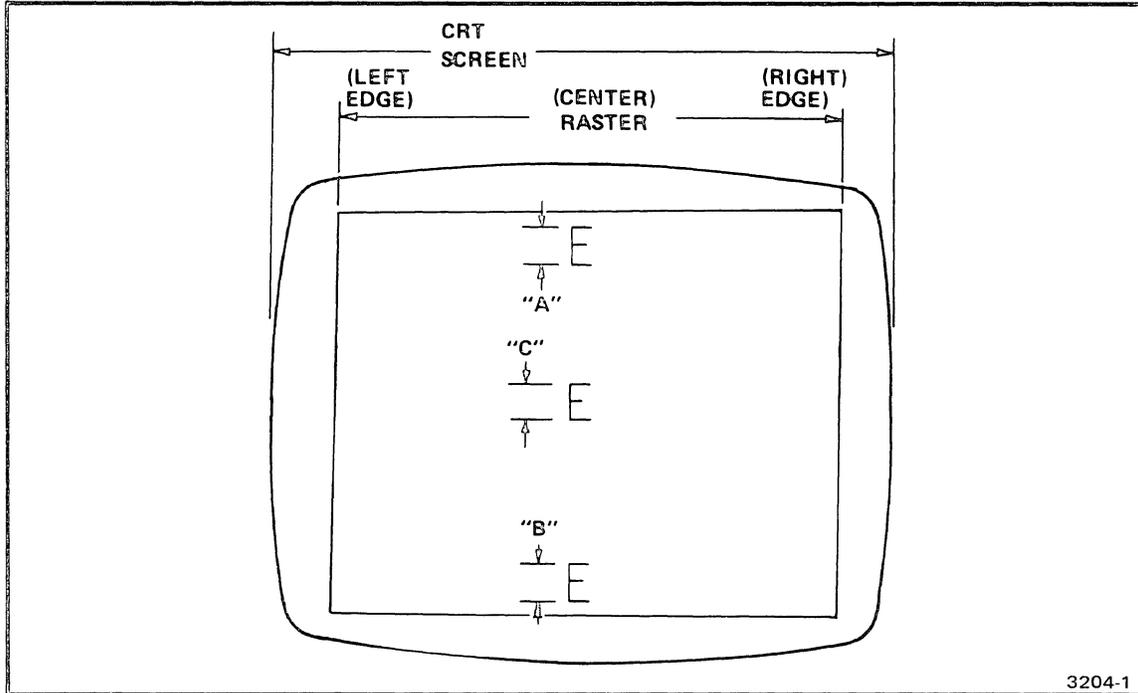

Figure 5-1. Partial CRT Display of Characters for Vertical Linearity Adjustment.
2. Adjust the vertical linearity control (R111) until the extreme top and bottom characters (designated 'A' and 'B' in Figure 5-1) are equal in height to the center characters (designated 'C').